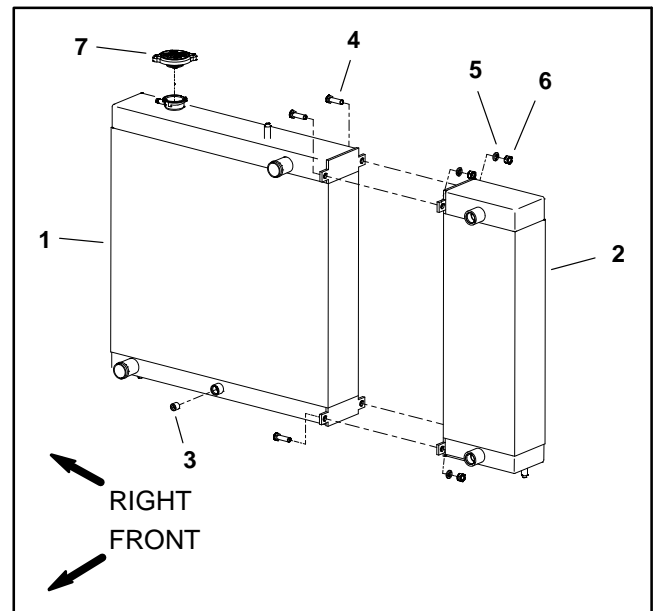

Figure 159
4. Separate oil cooler from radiator (Fig. 159).
2. Secure oil cooler to radiator (Fig. 159).